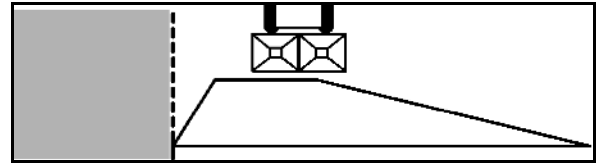

Fig. 91
1. Boundary spreading in accordance with fertiliser ordinance (Fig. 91)